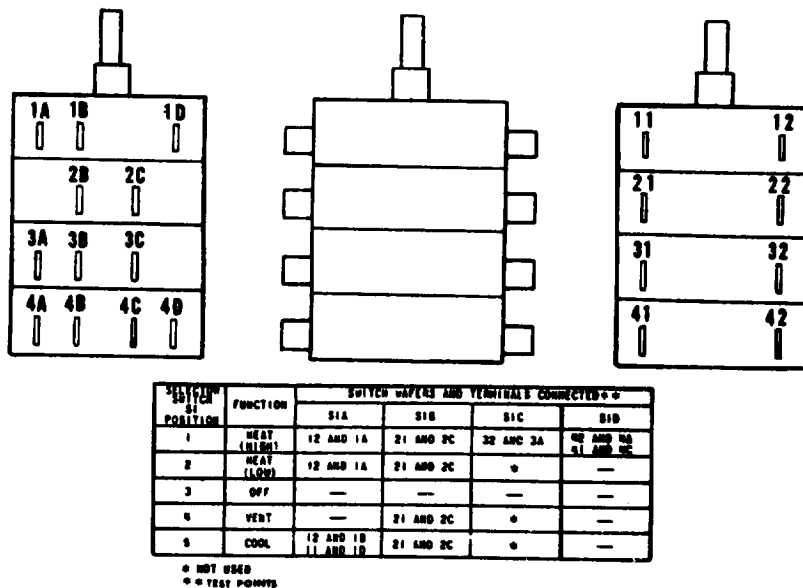

Figure 4-50. Switch Position and Terminal Identification
(1) Using multimeter and switch position chart shown on figure 4-50, check continuity at contacts indicated. With switch position closed, continuity should be indicated. With switch position open, no continuity should be indicated. Check between each set of contacts and at each switch position.